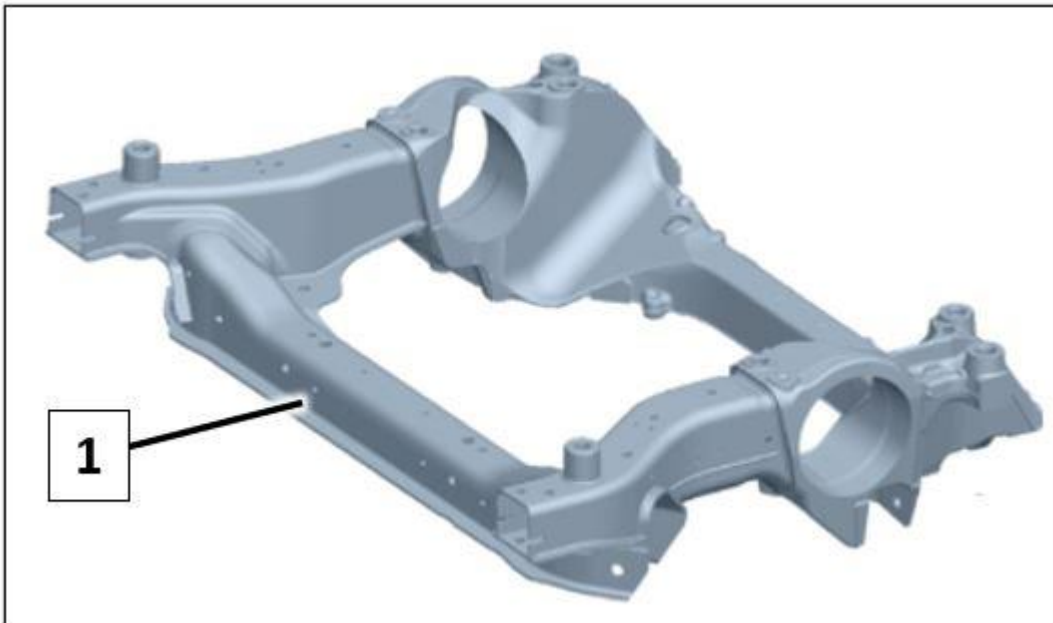

Figure 1
1. Replace front axle integral carrier (Figure 1, 1).